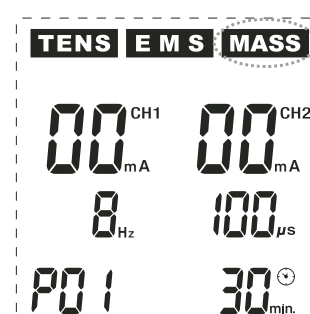

Fig. 7
Press the key (Ⓜ) (M) in order to select the **MASSAGE mode**. The **MASSAGE mode** is activated and information, as shown in **Fig. 7**, appears on the display: The device is now run in programme 1 (**P01**) of the **MASSAGE** mode (**MASS** flashes at the top on the right of the display). In the **MASSAGE mode**, there are 10 programmes **P01** - **P10** (see programme table, page 24 - 25) which are all pre-programmed. In the **MASSAGE mode**, press the key (Ⓟ) (P/II) repeatedly in order to first call the programmes **P01** - **P10**. After programme **P10**, the programme order starts from the beginning with **P01**, **P02** etc.